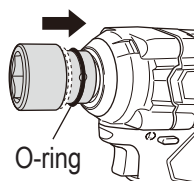
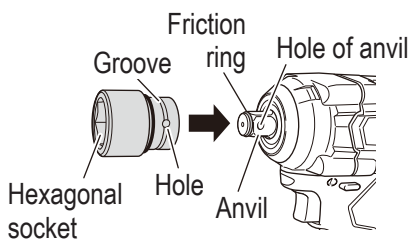

Fig. 12
Fig. 13
- (3) While making sure that the pin doesn't fall, attach the O-ring to the groove on the socket. (Fig. 12, Fig. 13)